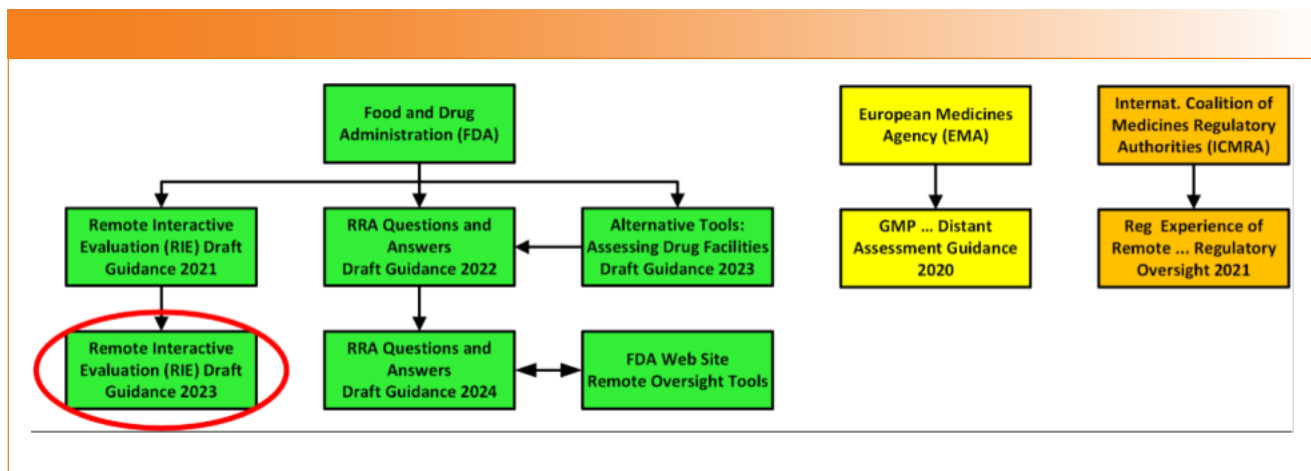

FIGURE 1: Sources of Remote Regulatory Oversight.
Recently, the FDA updated the draft guidance for Remote Interactive Evaluations (13), and our focus here is on the interpretation of this document for a regulated spectroscopy laboratory. Where there are gaps in the draft guidance, we have added the experience of the International Coalition of Medicines Regulatory Authorities (ICMRA) on remote regulatory oversight (14). The FDA is a member of and a contributor to ICMRA. In addition, some of our personal experiences of remote audits will also be included where appropriate. Post-pandemic, the FDA are continuing to use RRA and RIE for regulatory oversight in some cases. The various sources cited for remote regulatory oversight are shown in Figure 1, but our focus is on the October 2023 RIE draft guidance, circled in red. In this column, the words “investigator” and “inspector” are equivalent in meaning and relative to a person from a regulatory authority conducting on-site or remote regulatory oversight.
going forward all peak positions will be in cm^{-1} units even if not so stated). Based on peak position alone, you may not be able to distinguish between them. However, O-H stretching peaks are significantly broader than N-H stretching peaks, as seen in Figure 1.
FIGURE 1: (a) The N-H stretching peaks of propylamine plotted in absorbance (the peaks point up). (b) The O-H stretching peak of ethyl alcohol plotted in % Transmittance (the peak points down). Note that although all these peaks fall around 3350 cm⁻¹, their widths are significantly different, making them easy to distinguish from each other.